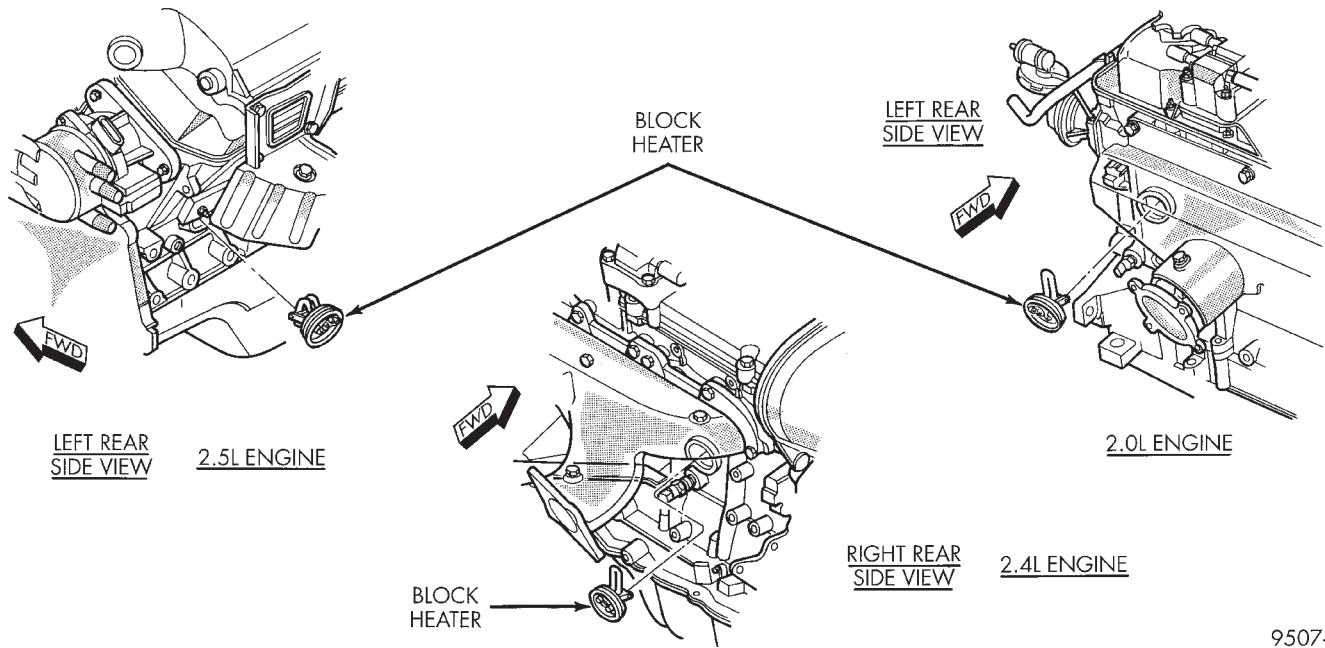

Fig. 35 Engine Block Heaters
- (1) Thoroughly clean core hole and heater seat (Fig. 35).
- (2) Insert heater assembly with electrical connector position at the top of the core hole.
- (3) With heater seated, tighten center screw securely to assure a positive seal.
- (4) Fill cooling system with coolant to the proper level, vent air, and inspect for leaks. Pressurize system with Radiator Pressure Tool before looking for leaks.